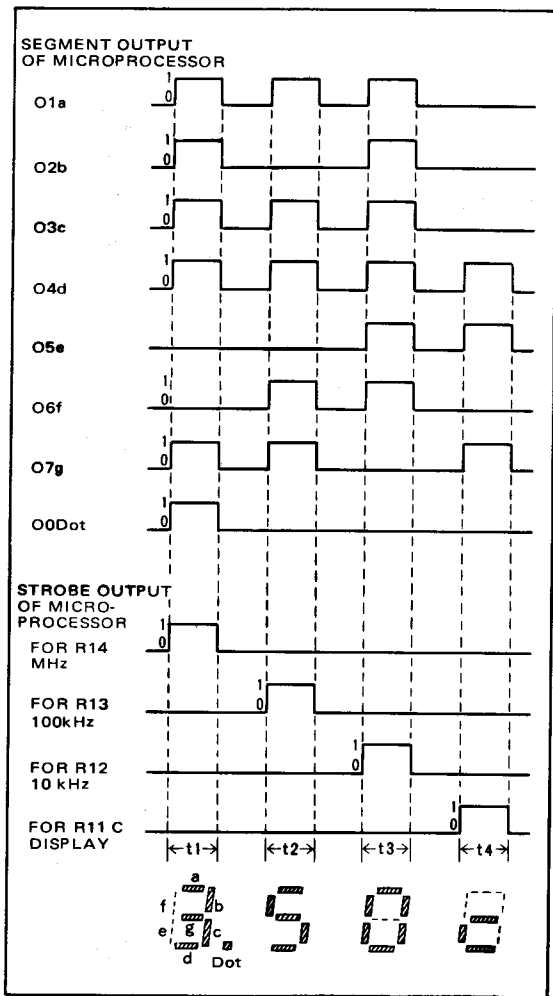

Fig. 7 Drive Signal Timing Sequence for 3.50C
- * 4-digit 7-segment LED display is driven by the segment output of LSI QL01 via segment driver QL03 and QL04. The timing sequence for displaying "433.500C" is shown in Figure 7.
- * The signals as shown in Figure 7 are repeatedly present at pins O0 to O7 to drive each segment.